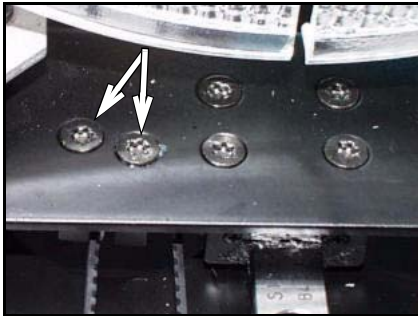

Fig. 10. Belt clamp screws
- 2 Remove the belt clamp screws. (Fig. 10.)